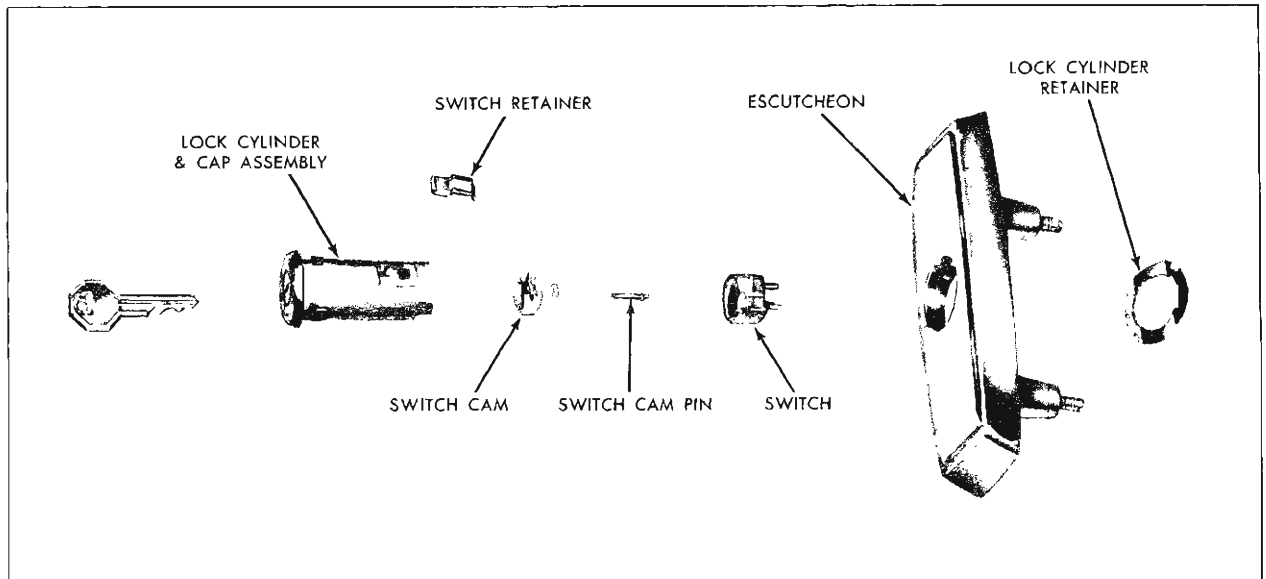

Fig. 5-15 Tail Gate Lock Cylinder, Switch and Escutcheon Assembly
2. Disengage lock cylinder and switch retainer (see Fig. 5-15) and remove lock cylinder and switch assembly from escutcheon.
3. Using a pointed tool inserted through hole in lock cylinder case, depress tab of switch retainer and remove retainer and switch (see Fig. 5-15).
4. Using a suitable pliers, grasp pin of switch cam firmly and pull switch cam straight out from lock cylinder (see Fig. 5-15).
**NOTE:** The crimped flange on production lock cylinder cap necessitates damaging cap during removal from lock cylinder case; however, service replacement caps are available which have four (4) bend over tabs for installation.